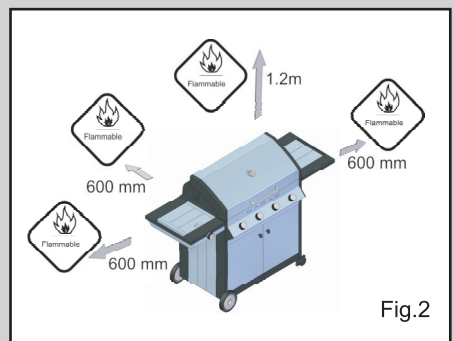

Fig.2
- Ensure the appliance is used away from flammable materials. Minimum safe distances are 1.2m above the appliance and 600mm to the rear and sides of the appliance (see fig. 2).